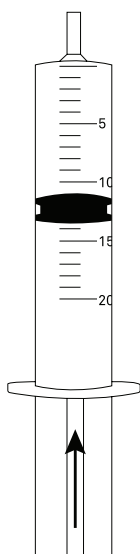

Figure 2 Fill syringe reservoir
1. Fill the reservoir syringe with 10 mL of deionized water (Figure 2).